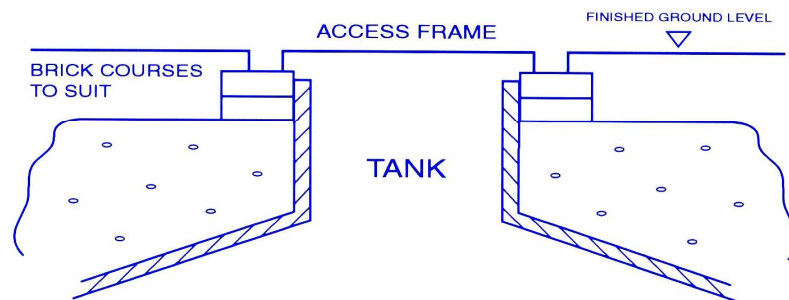

FIGURE 1
- 14) (If required) construct concrete cover slab (with access opening) of maximum 200mm thickness, ensuring that the slab is supported by consolidated backfill. Or utilise engineering brick courses to the sides of the GRP opening/manway, again these must be supported by consolidated backfill/concrete **(FIG 1)**.
- 15) Vehicle Area Installation. The access cover/frame would have been supplied unattached to the tank. Set frame into concrete cover slab or onto brick courses **(FIG 1)**.